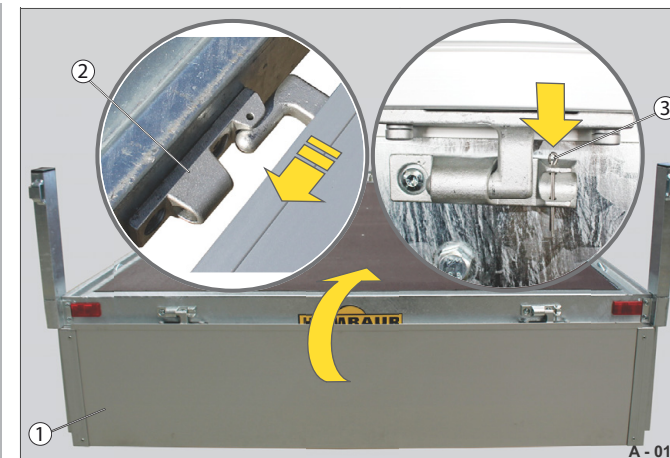

Fig. 16 Drop sides mounted / secured
- Hold the drop side (Fig. 16 /1) lengthwise approximately in the middle.
- Slide the drop side on to the hinges (Fig. 16 /2) in a horizontal position.
- Insert the securing split pin (Fig. 16 /3) into one of the hinges.